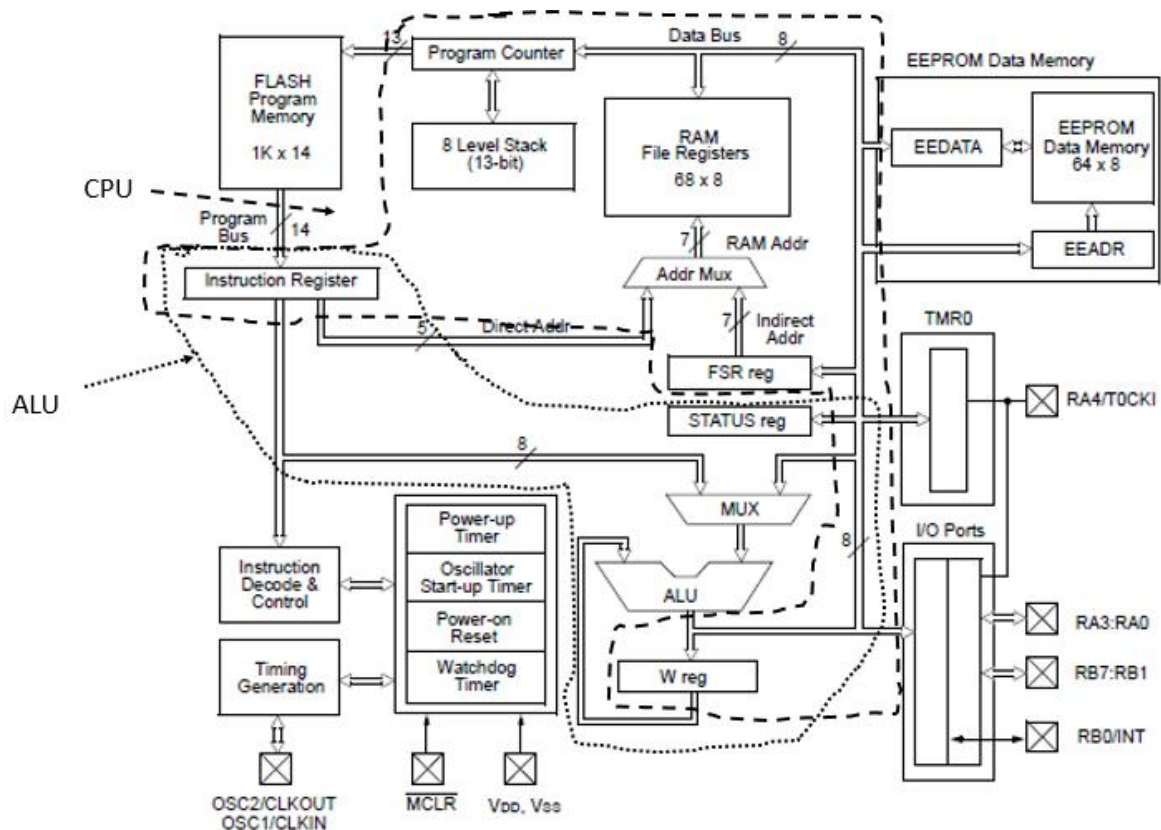

Figure 3: Block diagram of PIC16F84A
Central processing unit (CPU) is the brain of a microcontroller. That part is responsible for finding and fetching the right instruction which needs to be executed, for decoding that instruction, and finally for its execution. Arithmetic logic unit is responsible for performing operations of adding, subtracting, moving (left or right within a register) and logic operations. Moving data inside a register is also known as 'shifting'. PIC16F84 contains an 8-bit arithmetic logic unit and 8-bit work registers. Figure 3 illustrates the block diagram of PIC16F84A controller. In this figure ALU block and CPU block are illustrated using dotted line and dashed line respectively.
First line of the program uses bit set instruction (bsf). This operation set the 5th bit of the register which is located at 03h address. Figure 4 illustrates the 03h address belonging to the STATUS register. Setting the 5th bit of STATUS register (Figure 3) select the BANK1 where the tri state registers (TRISA & TRISB) are located. In the next line of the program move the 00h literal value into the working register (W). The value stored in the W register moves to 85h address in the next instruction line. Sending all zeros to 85h address (TRISA , refer Figure 4) make all pins to output mode.